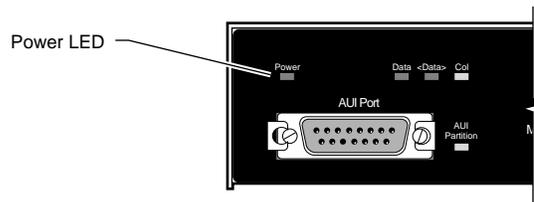

Figure 2-8. Power LED
5. Check the Power LED on the front panel (see Figure 2-8). If it does not light, contact the customer support department of the organization from which you purchased your Model 2800A.